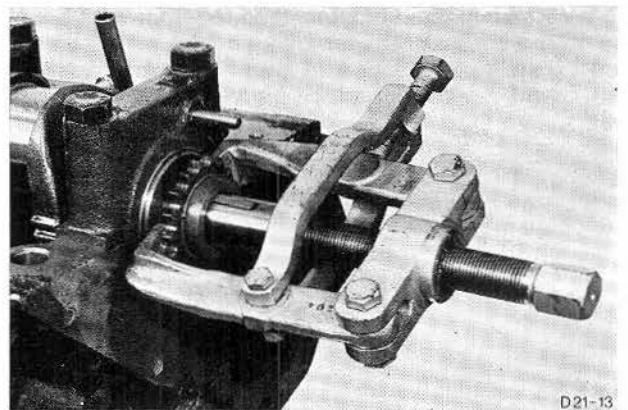

Fig. 31. Pull off crankshaft gear.
26. Pull off crankshaft gear using Special Tool 21-035, Fig. 31.